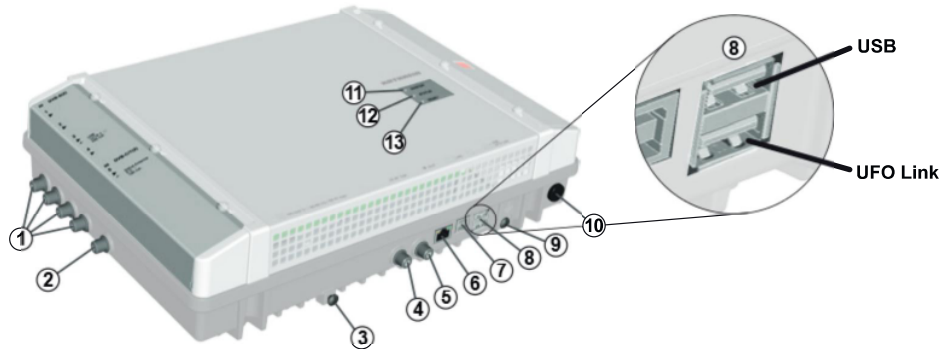

Fig. 1: Device elements
1. Connect a potential equalisation wire (Cu, $\geq 4 \text{ mm}^2$) to the earthing screw; see ⑨ in Fig. 1, P. 3.
- The plugs must be inserted into the master and slave at the appropriate UFO link interface ports (⑩ in Fig. 1).